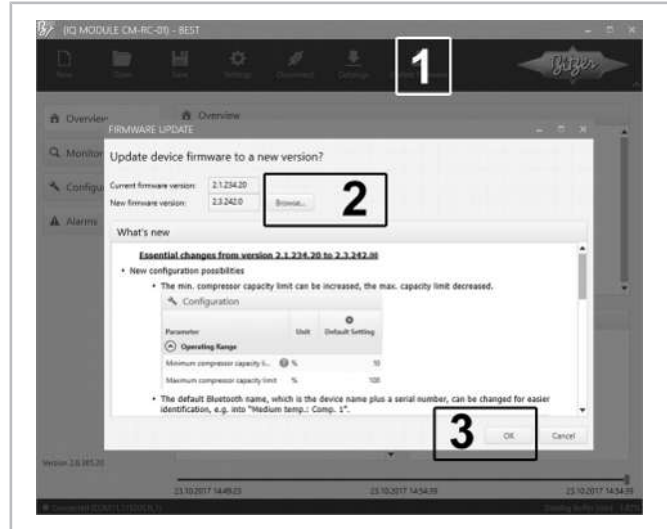

Fig. 2: Updating the firmware
- ▶ Select **UPDATE FIRMWARE** (1) and **BROWSE...** (2) (see figure 2, page 26).
- ▶ Start firmware update and wait until the successful update is confirmed. Confirm with **OK** (3).